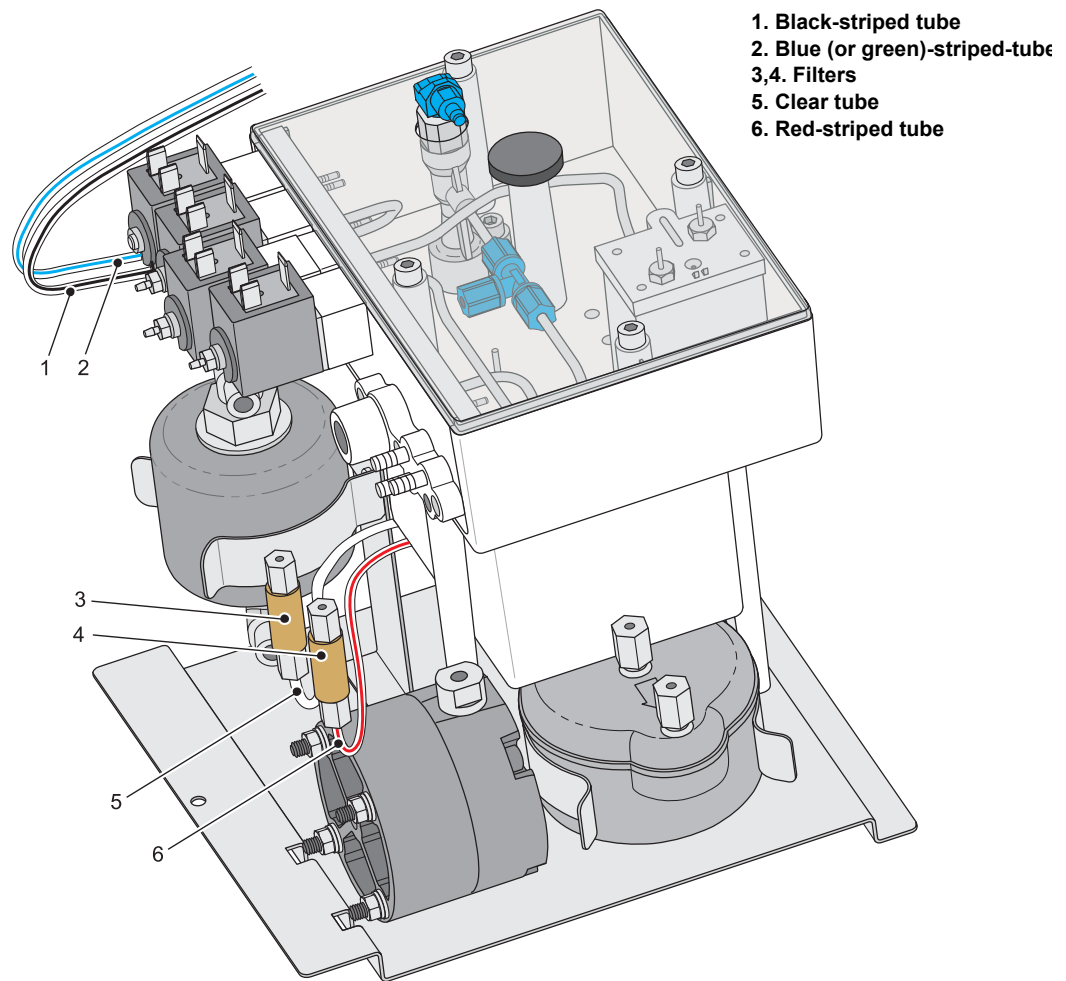

Figure 8-26. Umbilical tube connections
- 2 Disconnect the red-striped tube (Item 6 in Figure 8-26) and the clear tube (5) from the brown, pill-shaped filters (3, 4) in the ink system.
- 3 Disconnect the blue striped tube (2) (in some cases, this tube is green striped rather than blue) and the black-striped tube (1) from printhead manifold on the FMS.